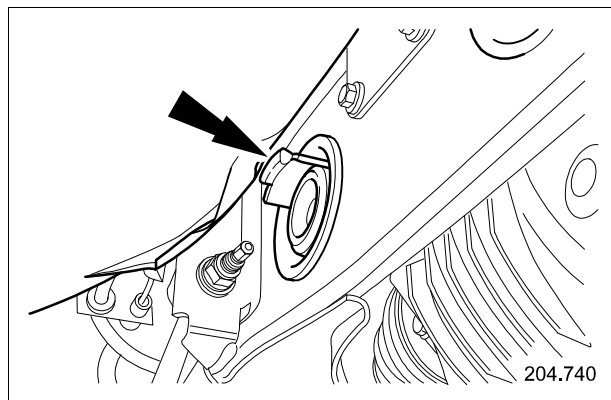

Fig. 3
- 6 Using a suitable tool, force insert part way into left-side bushing upper void (see Fig. 3).